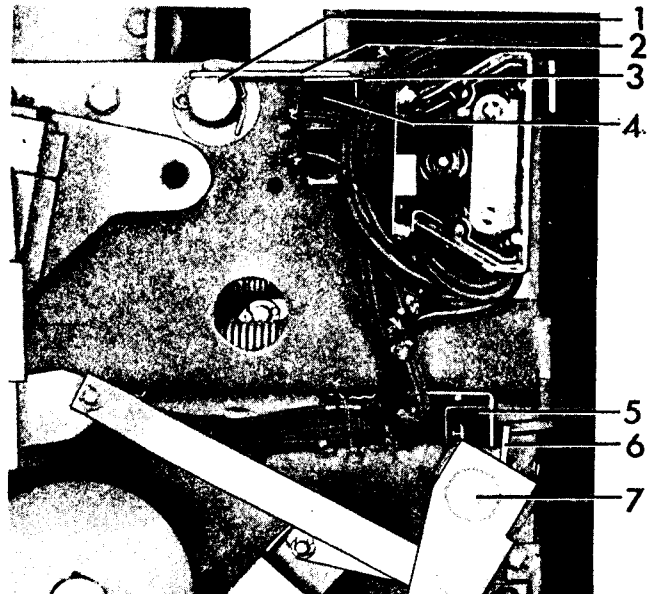

Figure 12. (8040933) Positive Interlock Switch
Refer to Figure 12. With the positive interlock in the reset, or normal position the clearance between the interlock switch arm (2) and the switch mounting plate (3) should be $1/32"$ or less. This can be adjusted by bending the switch arm.